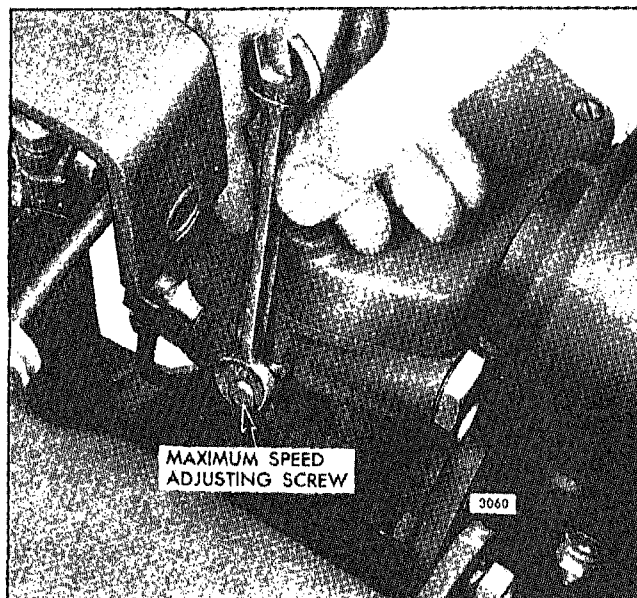

Fig. 5 - Adjusting Maximum Engine Speed
3. Loosen the lock nut and back off the maximum speed adjusting screw (Fig. 5) approximately 5/8"
3. Turn the maximum speed adjusting screw (Fig. 5) in lightly until contact is felt with the linkage in the governor.